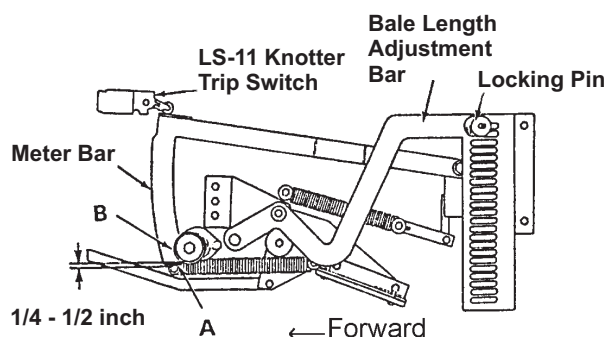

Figure 107 - LS-11 Knotter Trip Switch
LS-11 (see Figure 107) completes the circuit to allow the knotter to cycle when the plunger has reached LS-4 (Plunger Decel Switch) near the end of the plunger advance stroke. LS-11 also will cause the knotter to stop at midpoint of the tie cycle if the meter arm has failed to reset.
2. Raise the meter bar until cam contacts switch arm roller and switch clicks to operate (see Figure 107).
4. Measure from top of roll pin, (A) to bottom of guide washer, (B).